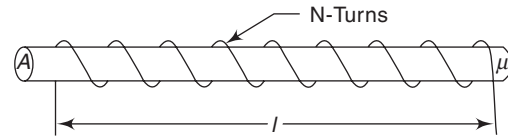

Fig. 2.30 Inductance of a coil
An inductor is usually a coil of copper wire wound around a core made up of a ferromagnetic material, as shown in Fig. 2.30. The inductance (L) of the coil is given by